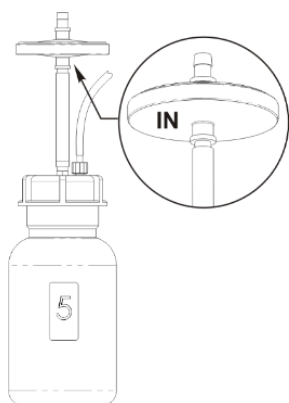

Figure 16. Filter mount
9.3. Filter replacement (figure 16).
Caution! Maintain the mounting of the filter according to figure 16. The **IN** marking should be located on the side of the inlet tube (facing the bottle).